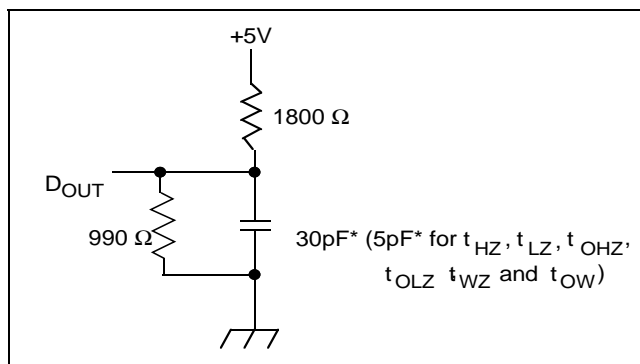

Figure 1. Output Load
4. Transition is measured ± 200 mV from steady state voltage prior to change, with loading as specified in Figure 1. This parameter is sampled and not 100% tested.
Output Load	See Figures 1 and 2